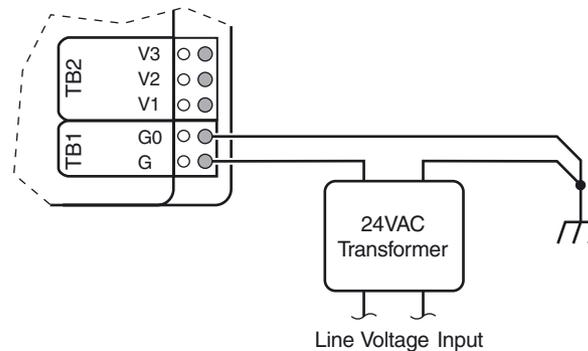

Figure 13. Power Connection
- ◆ The Electrical Service Earth Ground wire must then be connected to the ground terminal on the controller power terminal block (see Figure 13).
1. Connect one secondary lead from a separate, isolated 24 VAC transformer to TB1-1 (G).
3. Using 14-AWG wire (2.1 mm²) connect TB1-2 (G0) to the same ground connection used to ground the wire lead from the transformer (see Figure 13).